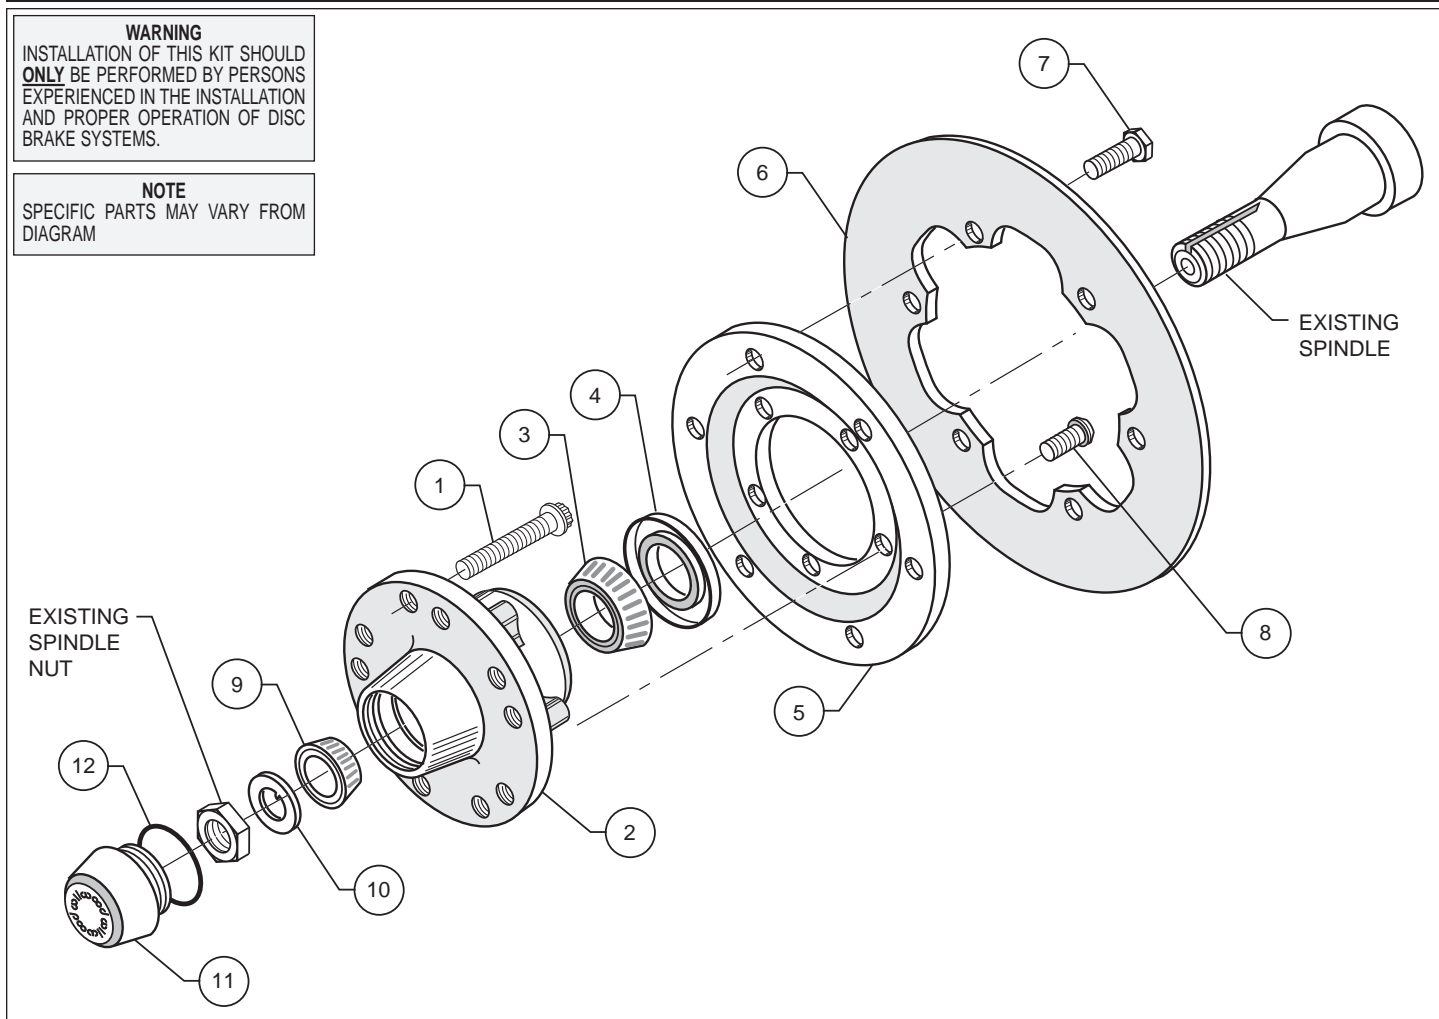

Figure 1. Typical Installation Configuration
- Mount the adapter/rotor assembly (5/6) to the hub (2) using bolts (8) (finger tight), as shown in Figure 1. Using an alternating sequence, remove bolts one at a time, apply red *Loctite*® 271 to the threads, and torque to 45 ft-lb.
- Pack the small outer bearing cone (9) with high temperature disc brake bearing grease and install into front of hub (2). Slide the hub/rotor assembly (2 and 6) with outer bearing cone (9) onto the spindle. Secure using swasher (10), stock adjusting nut and nut locking device. Adjust bearings per Original Equipment Manufacturer (OEM) specifications.
- Install the dust cap (11) onto the hub (2). Friction created by the o-ring (12) on the dust cap (11) keeps it from unscrewing. The O.D. of the spindle washer may be larger than the I.D. of the dust cap (11) not allowing it to seat against the hub face. Some grinding on the washer O.D. may be necessary to clear the I.D. of the dust cap (11).